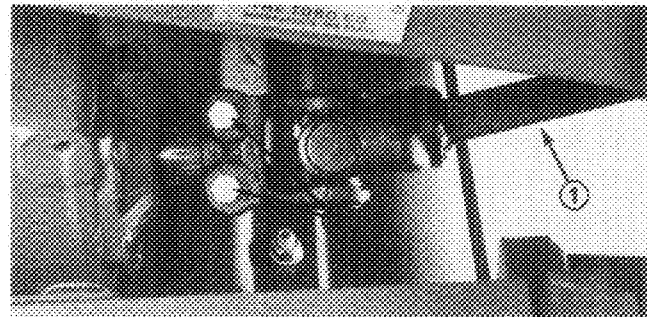

Figure 4
2. Stop engine, slide cutting unit under frame, slide male PTO shaft into female PTO shaft. Align gearcase input shaft with PTO shaft and slide together. Secure with roll pin (Fig. 4).
**Note:** On Groundsmaster 220-D (Diesel) or GM 224 also tighten bolts and locknuts (Fig. 4).